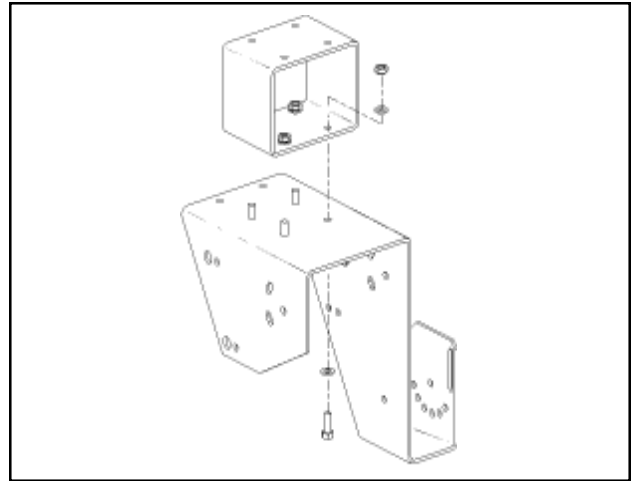
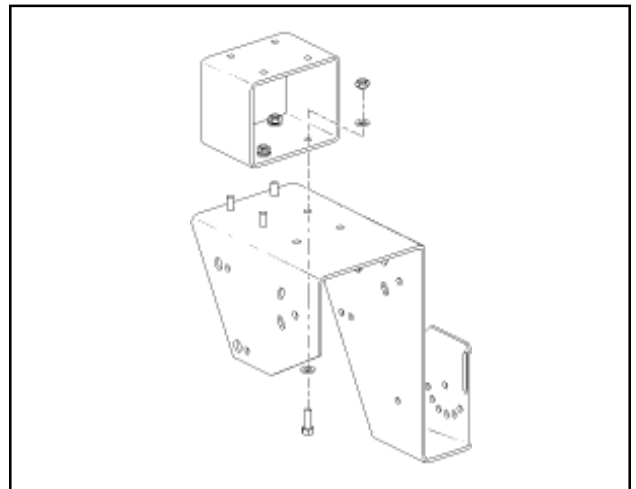

Figure 3 - "IN" Mounting Position
Figure 4 - "OUT" Mounting Position
- 1) Install the extend outboard bracket - Using the M6 washers, lock washers, nuts and screws provided with this kit attach the extend outboard bracket as shown in figure 3 or figure 4.
**Note:** For applications where the Extended Outboard Bracket is not used the Main Outboard Bracket is attached directly to the Case sealer using the same fastener locations shown in figures 3 & 4.